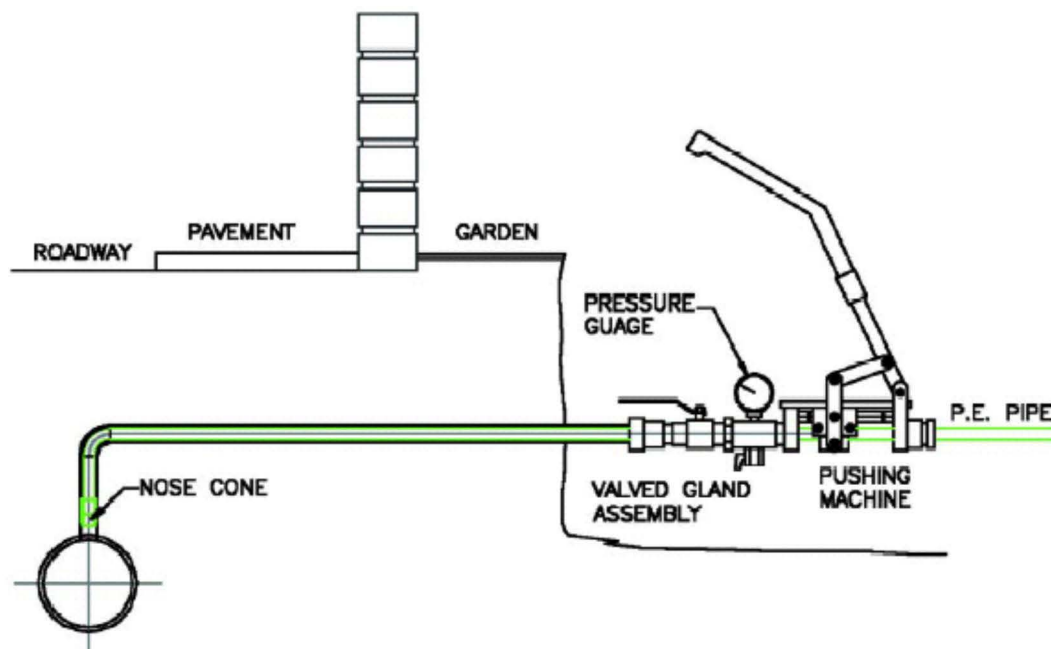

Figure B10 – Insertion of PE
9. Install pressure gauge, open gland assembly valve and check district mains pressure (refer to Figure B10).
26. Install pressure gauge and connect purge hose to the vent on the valved gland assembly (refer to Figure B10).
- 33a Shut the purge valve and check the pressure gauge for effectiveness of the seal. Check for a good seal from the nose cone by checking the pressure gauge remains at zero. Ensure pressure does not rise back to full line pressure within 5 seconds. (Figure B10)